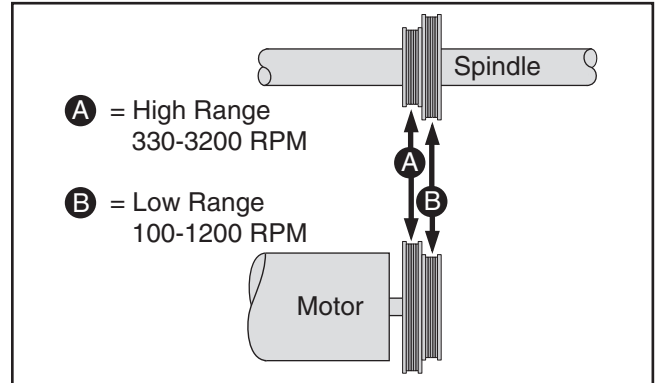

Figure 31. Speed range belt positions.
5. Reach into the belt access cavity and roll the belt onto the desired set of pulleys, as shown in **Figure 31**.